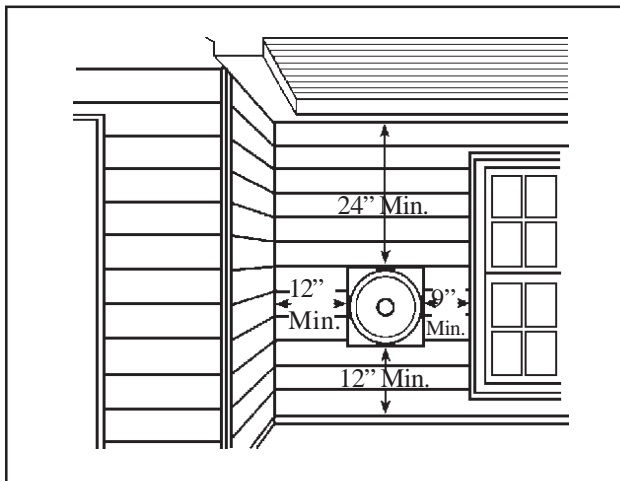
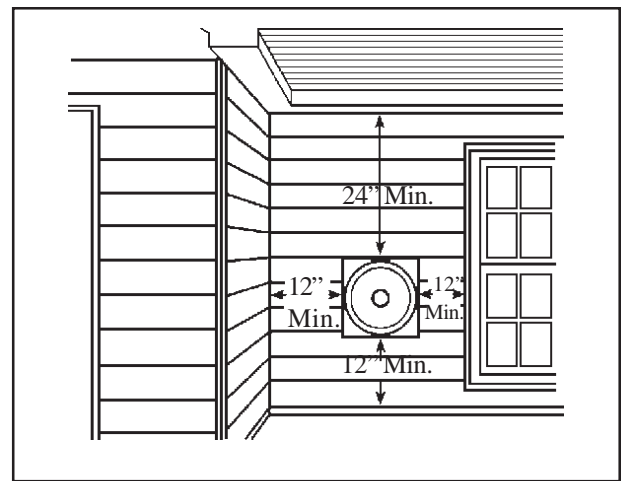

FIGURE 2 / DVCF403C, 404C, 407C, AND 408C
FIGURE 2B / DVCF553C, 554C, 557C, AND 558C
4. The minimum clearance from the side of the vent cap to any protruding obstructions, or corners is 12". (See Figure 2b).
5. The minimum clearance from any window to the side of the vent cap is 9" for DVCF403, 404, 407 and 408C (See Figure 2), and 12" for DVCF553, 554, 557, and 558C (See Figure 2b).
6. The minimum clearance from any overhanging projection is 24" to top of vent cap (See Figure 2).
5. Be sure the vent cap will have the proper clearances (See Figure 2).